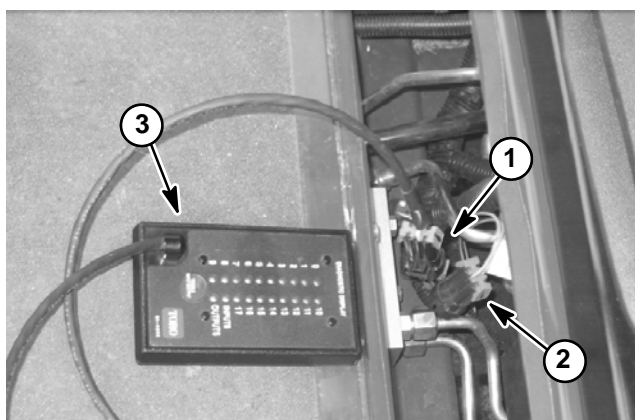

Figure 8
2. Remove plate in front of seat to allow access to wire harness loop back connector. Locate wire harness and loop back connector (Fig. 8). Carefully unplug loop back connector from harness connector.